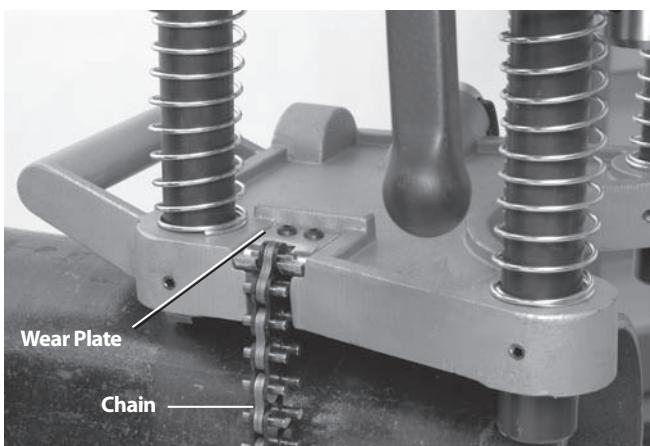

Figure 5 – Hooking the HC-450 Chain
- Always keep at least one hand on the Hole Cutting Tool to stabilize and guide it. Grasp the end of the chain and pull it snugly around the pipe. Hook the closest chain pin on the wear plate and firmly tighten the swivel handle to hold the Hole Cutting Tool to the pipe. (See *Figure 5*.)